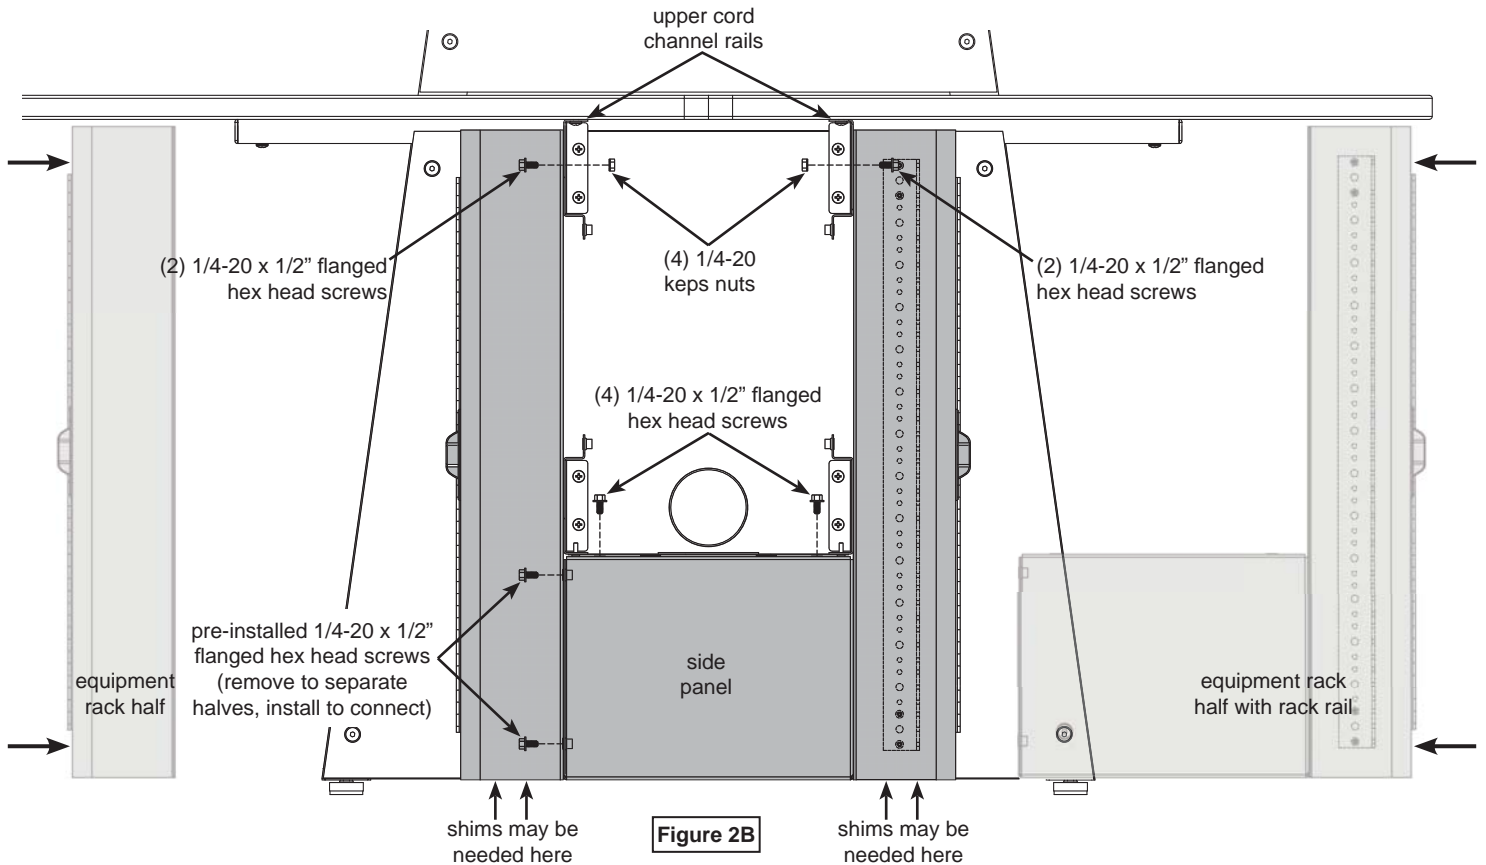

**Figure 1**
- A. Remove the (4) 1/4-20 x 30mm JC bolts to remove each short side panel from the existing cord channel. **Figure 1.**